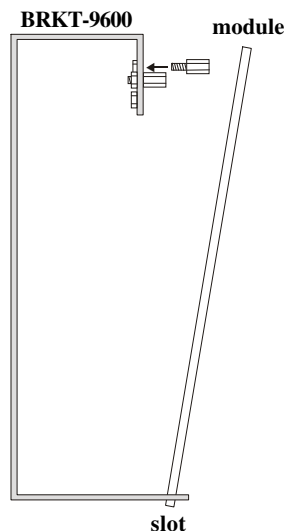

Figure 2: Universal Bracket (slot)
2. Position the module bottom in the slot located in the bottom of the BRKT-9600 as illustrated in Figure 2.